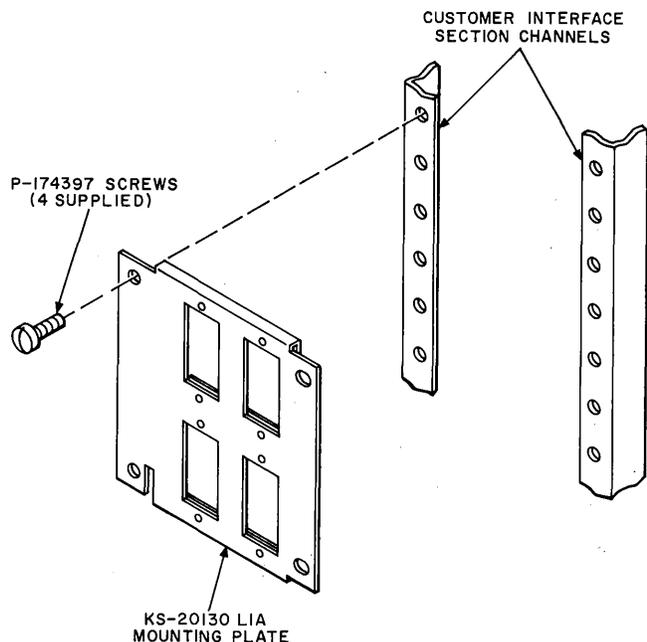

Fig. 9—Detail for Mounting KS-20130 L1A Mounting Plate in Customer's Interface Section of KS-20093 L1 Cabinet
- (1) Install the KS-20130 L1A mounting plates in the customer interface section of the cabinet as shown in Fig. 9 using the screws provided. **Completely tighten the screws.**